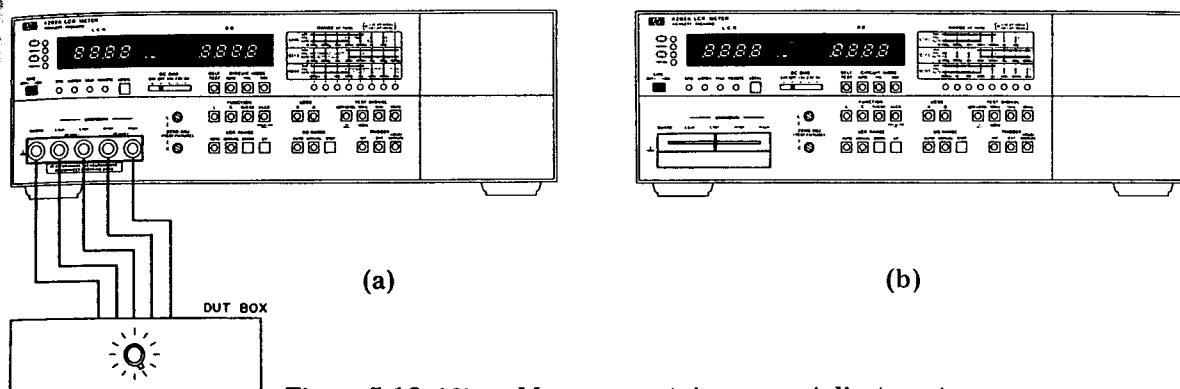

Figure 5-12. 10kHz Measurement Accuracy Adjustment.
a. Connect Test Leads (HP P/N 16361-61605) between 4262A UNKNOWN terminals and 16362A DUT Box as shown in Figure 5-12 (a). If DUT Box is not available, attach 16061A Test Fixture to 4262A UNKNOWN terminals [see Figure 5-12 (b)].